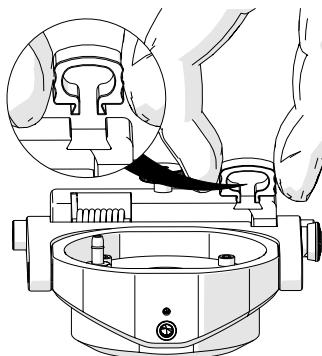

Fig. 135 - Cable clip
1. The supplied cable clip (Fig. 135) is offered as a means of cable management. Pinch the clip for removal and installation. The cable clip is not typically used in conjunction with the raster arm setup.